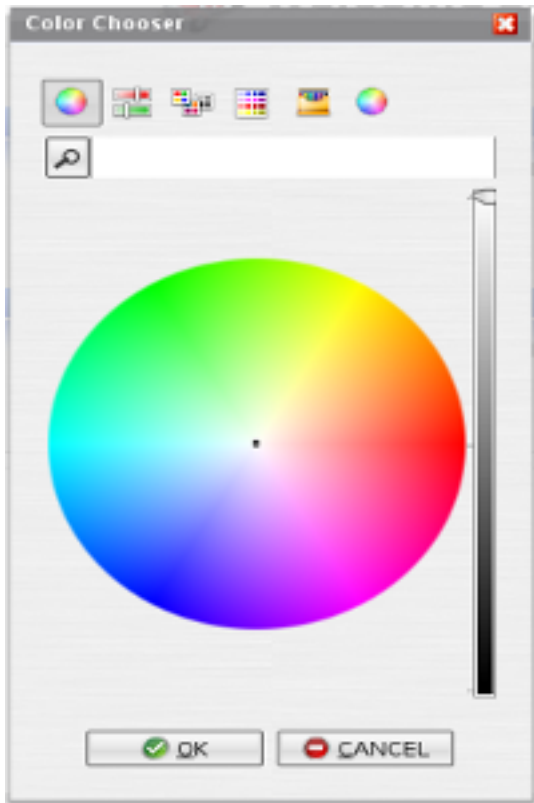

Figure 4.2. Font Color Chooser
2. Move your mouse to hover over the right top corner of the box whose font color you want to change until the following color selector icon appears. . Once the icon appears click it with your left mouse button, and wait for the color chooser dialog See Figure 4.2, "Font Color Chooser".